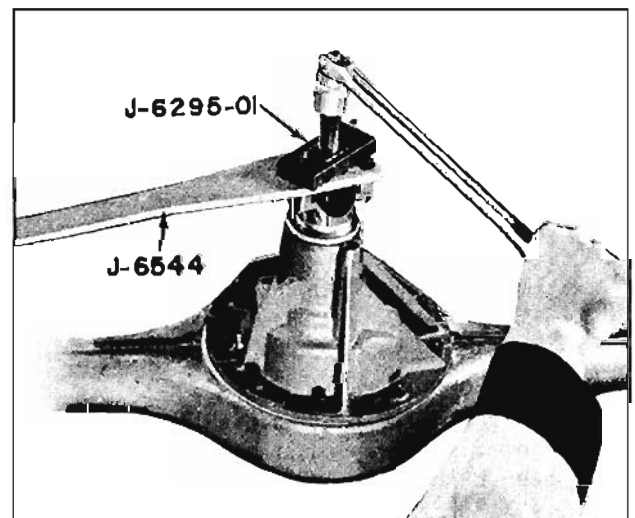

Fig. 10-9 Removing Companion Flange
4. Remove companion flange using Puller J-6295-01 (Fig. 10-9)
5. Remove washer and then remove companion flange using Puller J-6295-01. (Fig. 10-9)